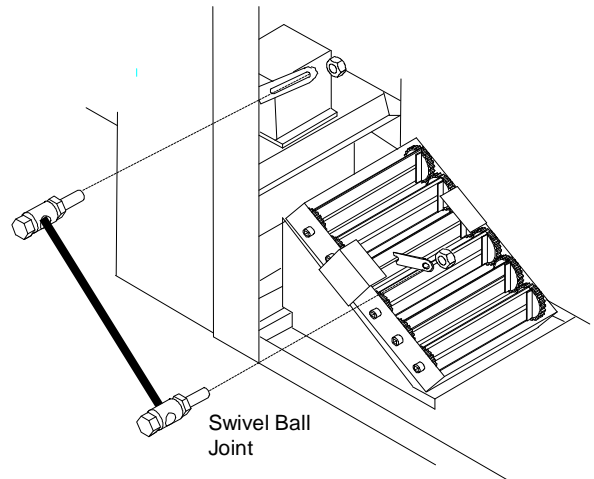

**Figure 17: Installing Economizer Unit Assembly**
15. Lift the economizer unit assembly and tilt the bottom away from the unit. Slide the top of the economizer assembly in the space between the unit top and side so that the top edge fits under the lip. See figure 17.